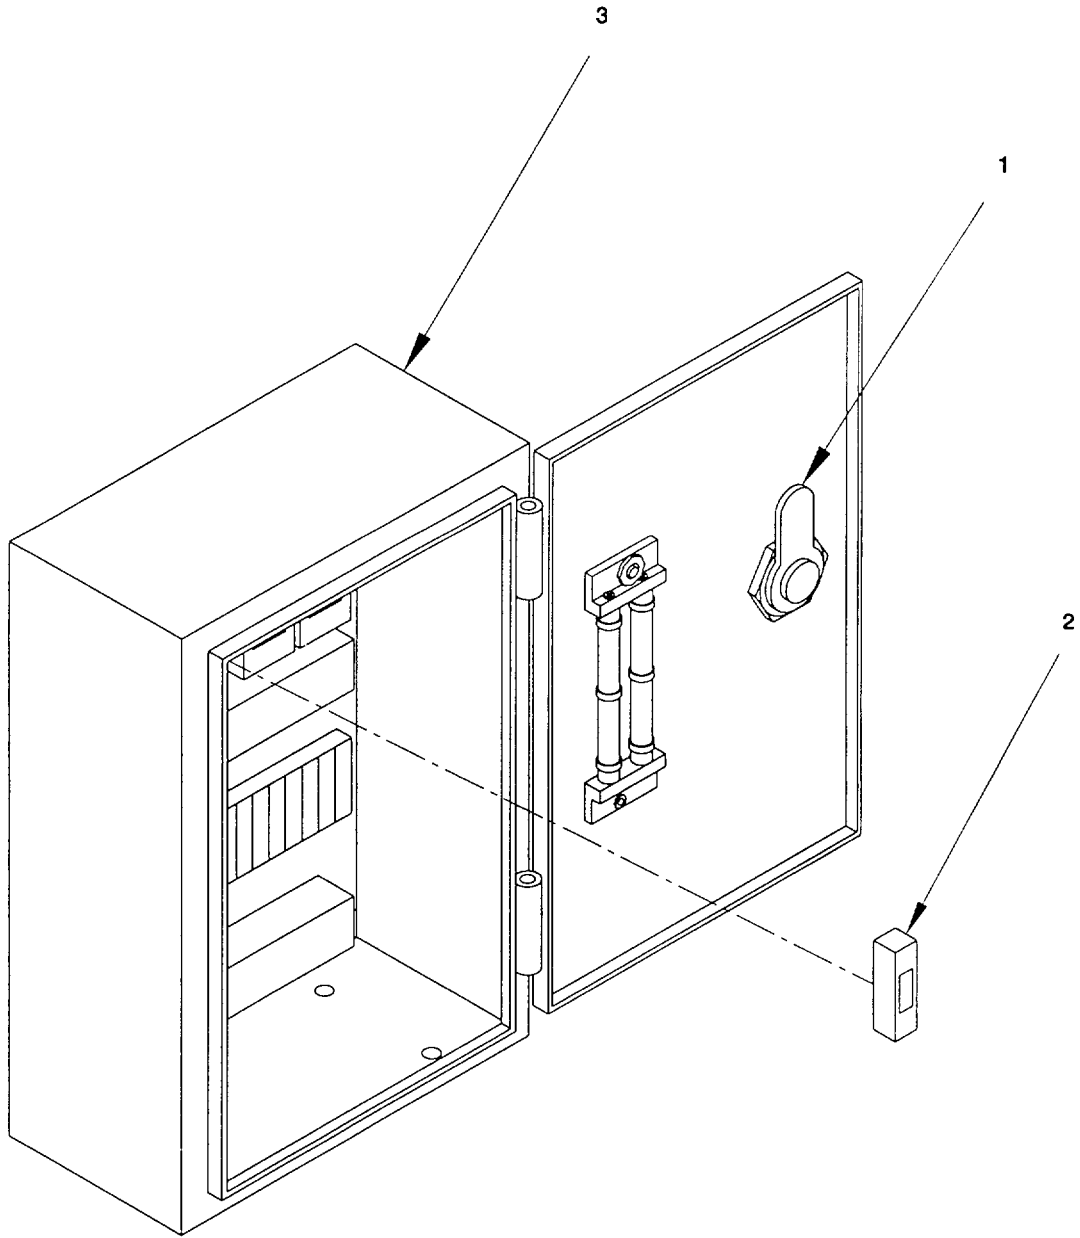

Figure 2-74. Circuit Breaker, Pump-Jet Junction Box "A2", Remove/Install.
a. *Remove.* (figure 2-74)
- (1) Turn door latch (1) 90° and open door to junction box (3).
- (2) Disconnect and tag all wiring to the pump-jet junction box. Refer to Appendix G.
- (3) Remove circuit breaker CB1 (2).
b. *Install.* (figure 2-74)
- (1) Insert new circuit breaker (2) in panel within box (3).
- (2) Connect all wiring to the pump-jet junction box (3).
- (3) Close door to junction box (3) and turn door latch (1) 90° to hold closed.